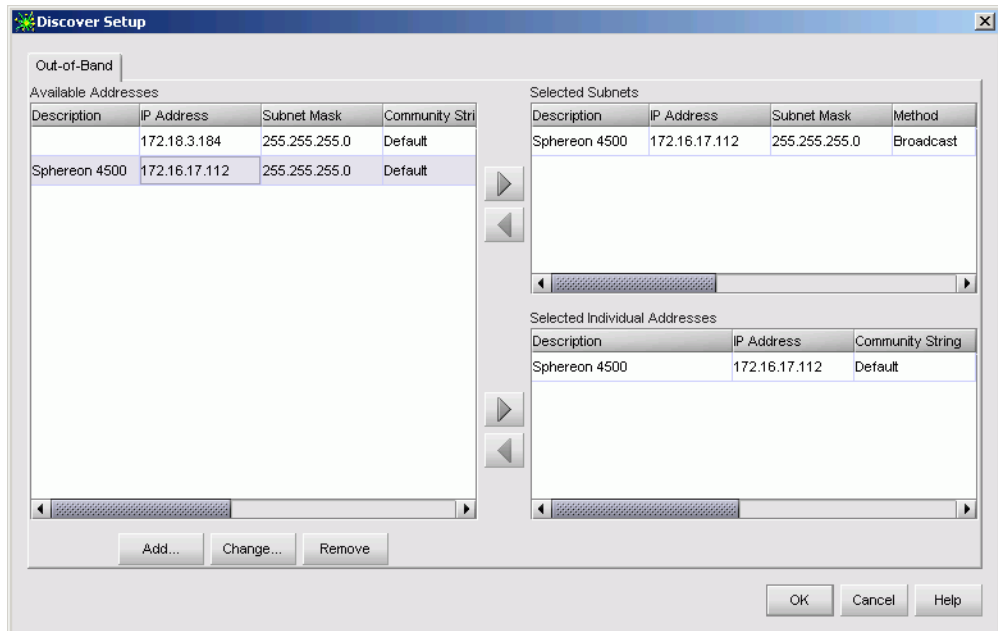

Figure 4-77 Discover Setup Dialog Box
- c. At the SAN management application, select the *Setup* option from the *Discover* menu. The *Discover Setup* dialog box displays (Figure 4-77).
- Delete the icon representing the reset switch. At the SAN management application, select the *Setup* option from the *Discover* menu. The *Discover Setup* dialog box displays (Figure 4-77 on page 4-85).